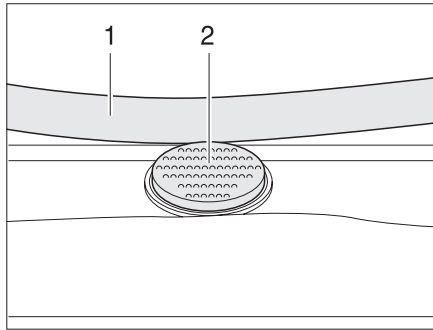

Fig. 44 Safety knob on the Heki skylight
- ▶ Press the safety knob (Fig. 44,2) and pull the bar (Fig. 44,1) down with both hands.
- ▶ Push the bar upwards with both hands until it is above the safety knob (Fig. 44,2).